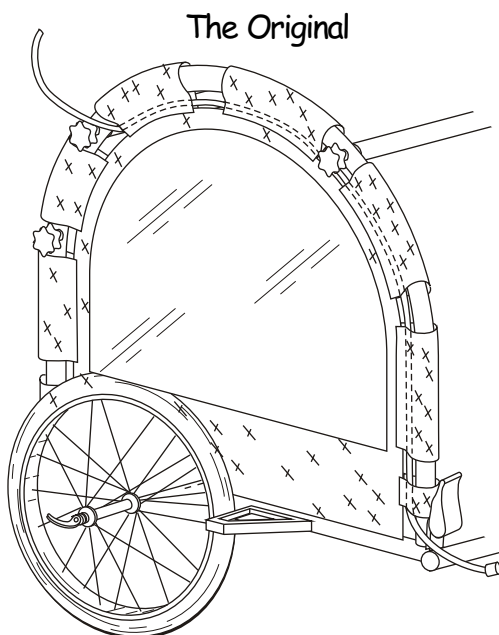
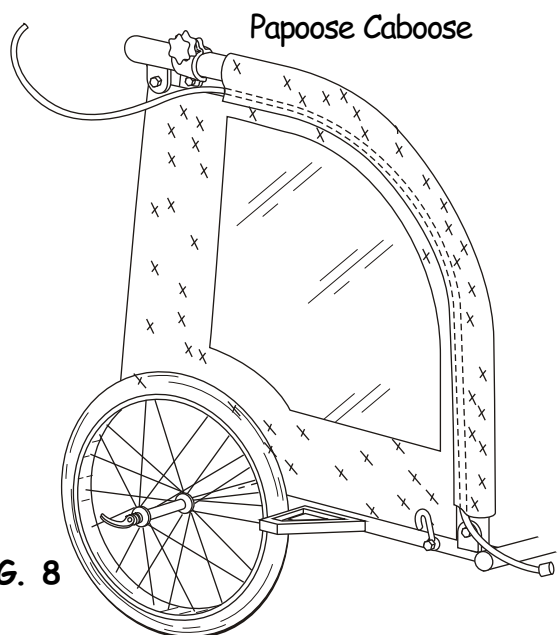

FIG. 7
FIG. 8
A. Route cable as shown in Figure 7 keeping it within the fabric loops starting with bottom corner and coming out at the 5th loop (Papoose only has one loop Figure 8).